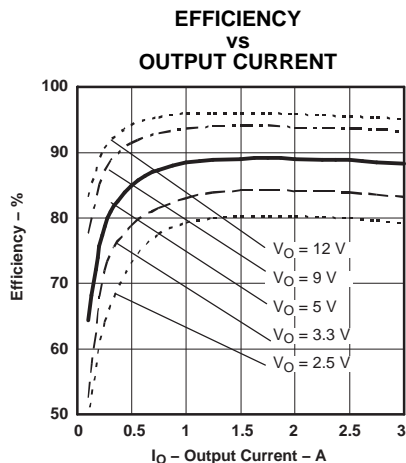
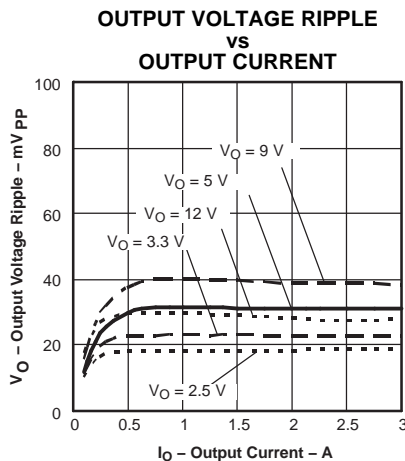
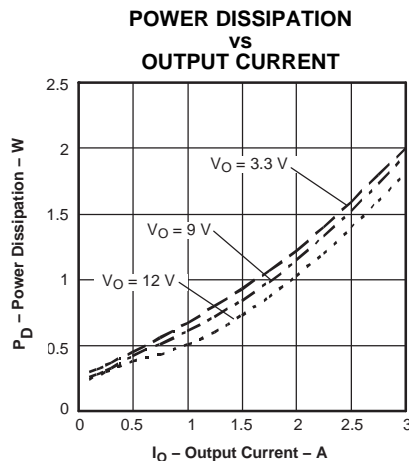

Figure 6.
Figure 7.
Figure 8.
- (1) The electrical characteristic data has been developed from actual products tested at 25° C. This data is considered typical for the converter. Applies to Figure 6, Figure 7, and Figure 8.